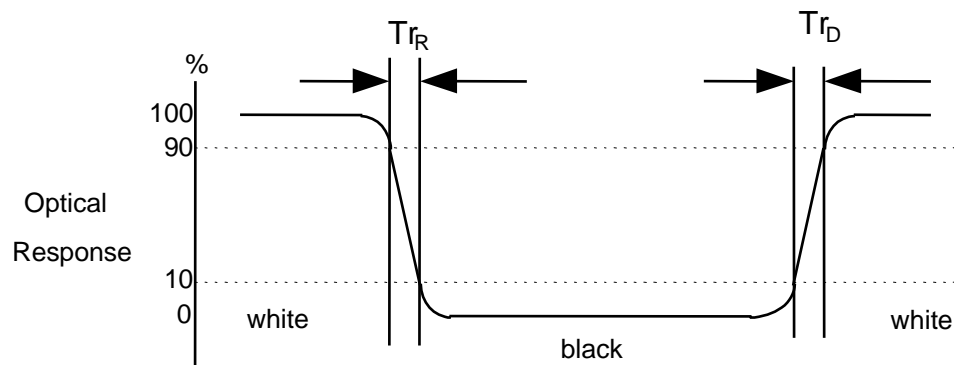

FIG. 4 Viewing angle
| Viewing angle | Horizontal | ϕ x(Left,Right) | ±65 | ±70 | — | ° | Fig 4 |
3. Viewing angle is the angle at which the contrast ratio is greater than 10. The angles are determined for the horizontal or x axis and the vertical or y axis with respect to the z axis which is normal to the LCD surface. For more information see FIG 4.